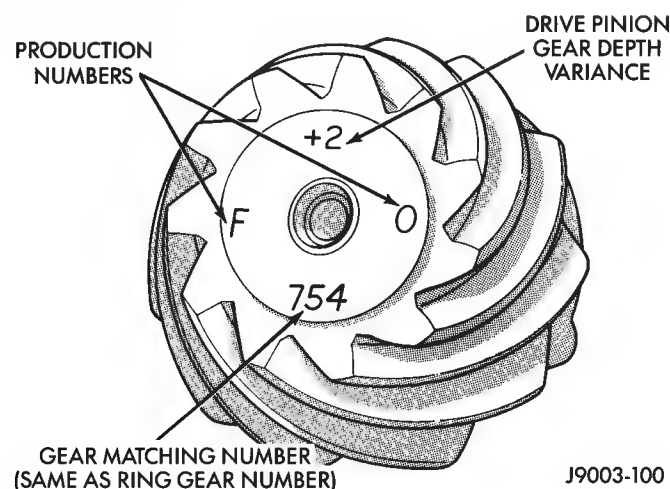
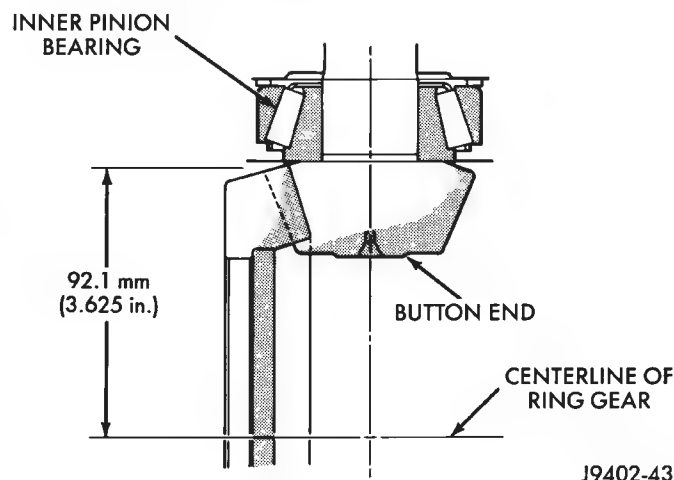

Fig. 39 Pinion Gear ID Numbers
Fig. 40 Pinion Gear Head
Ring and pinion gears are supplied as matched sets only. The identifying numbers for the ring and pinion gear are etched into the face of each gear (Fig. 39). A plus (+) number, minus (-) number or zero (0) is etched into the face of the pinion gear. This number is the amount (in thousandths of an inch) the depth varies from the standard depth setting of a pinion etched with a (0). The standard setting from the centerline of the ring gear to the back face of the pinion is 92.1 mm (3.625 inches) for Model 30 axles (Fig. 40). The standard depth provides the best teeth contact pattern.
THE BUTTON END ON THE PINION GEAR HEAD IS NO LONGER A MACHINED-TO-SPECIFICATIONS SURFACE. DO NOT USE THIS SURFACE FOR PINION DEPTH SET-UP OR CHECKING (Fig. 40).